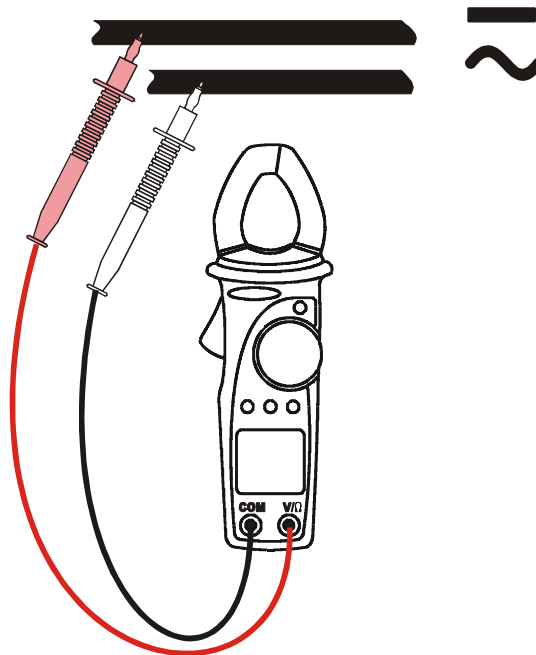

Fig. 4: Use of clamp for AC/DC voltage measures.
2. Insert the test leads into the jack, the red lead into “+” jack, and the black lead into the COM jack. Refer to Fig. 4.
4. Press R-H key you can select manually the measurement ranges in cyclic order. Press R-H key 2 seconds to return to the AUTOMATIC range selection.